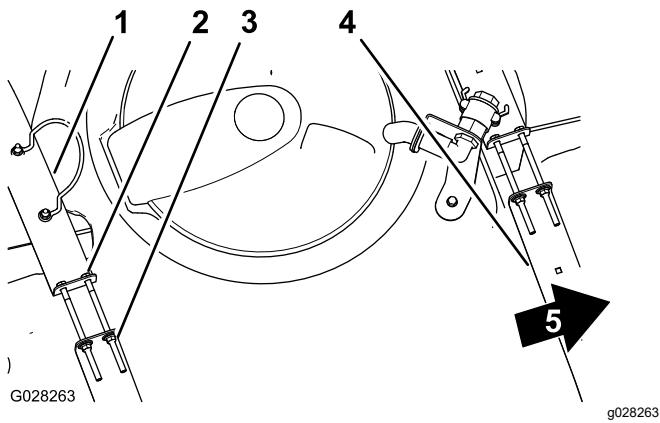

Figure 74
2. Check to see if there is any movement between the tank straps and the tank (Figure 74).
3. If the tank straps fit loose to the tank, tighten the flanged locknuts and bolts at the top of straps until the straps are flush with the surface of the tank (Figure 74).